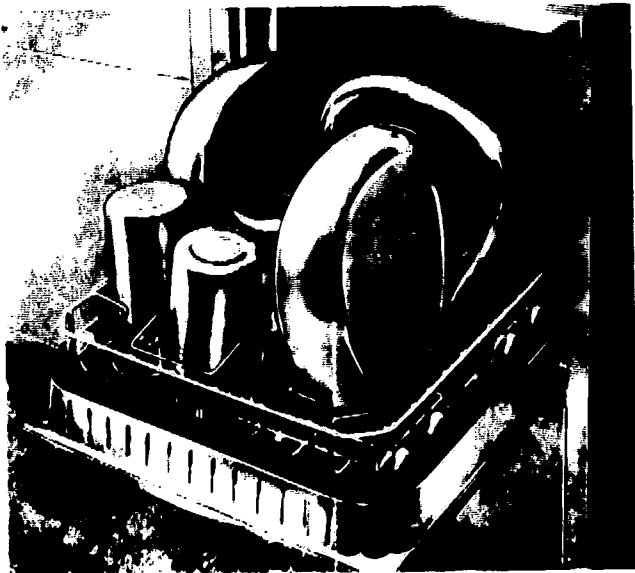

Figure 5-2. Second Method of Loading.
2. 3 bedpans and 3 urinals or enema cans. See Fig. 5-2.